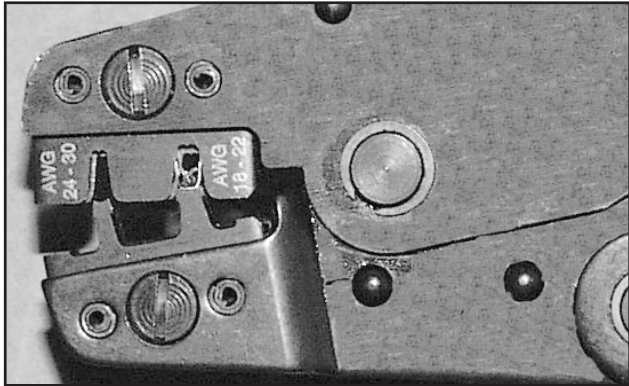

Figure 4. Assembled Card
- Tighten the daughter card down (Figure 4) with the supplied two Phillips panhead screws (included in the console's connector kit).
4) Insert wire into terminal until wire insulation is stopped by conductor tabs (figure 3). **CRIMP** by squeezing handles until jaws are fully closed (figure 4).